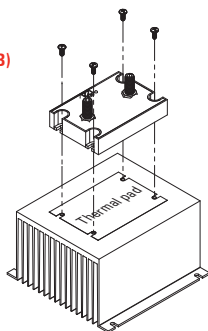

fig. 1 HAC Series SSC mounted on HS053 heat sink (A)
- ◆ Select adequate heat sink (see thermal derating curves). (B)
- ◆ HAC Series Contactor mounting slots have a diameter of 0.2 in (5.0 mm). Four screws are needed (not included) to mount the SSC onto heat sink (See fig. 1). Choose screw length considering the mounting surface and that HAC Series baseplate thickness is 0.125 in (3.2 mm).